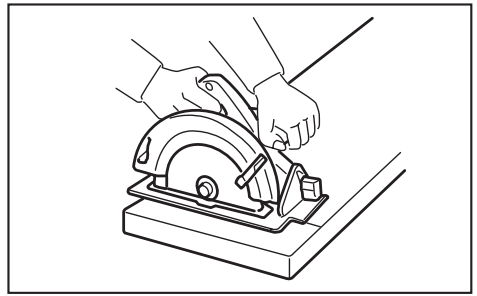
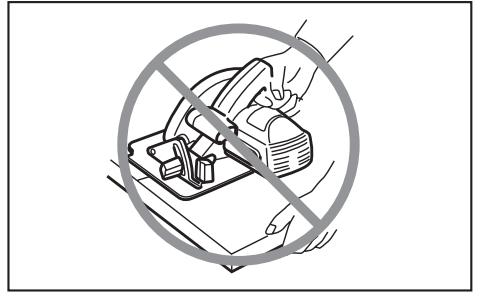

Fig. 5
Fig. 6
16. **Place the wider portion of the saw base on that part of the workpiece which is solidly supported, not on the section that will fall off when the cut is made.** As example, Fig. 5 illustrates the **RIGHT** way to cut off the end of a board, and Fig. 6 the **WRONG** way. If the workpiece is short or small, clamp it down. **DON'T TRY TO HOLD SHORT PIECES BY HAND!** (Fig. 6)